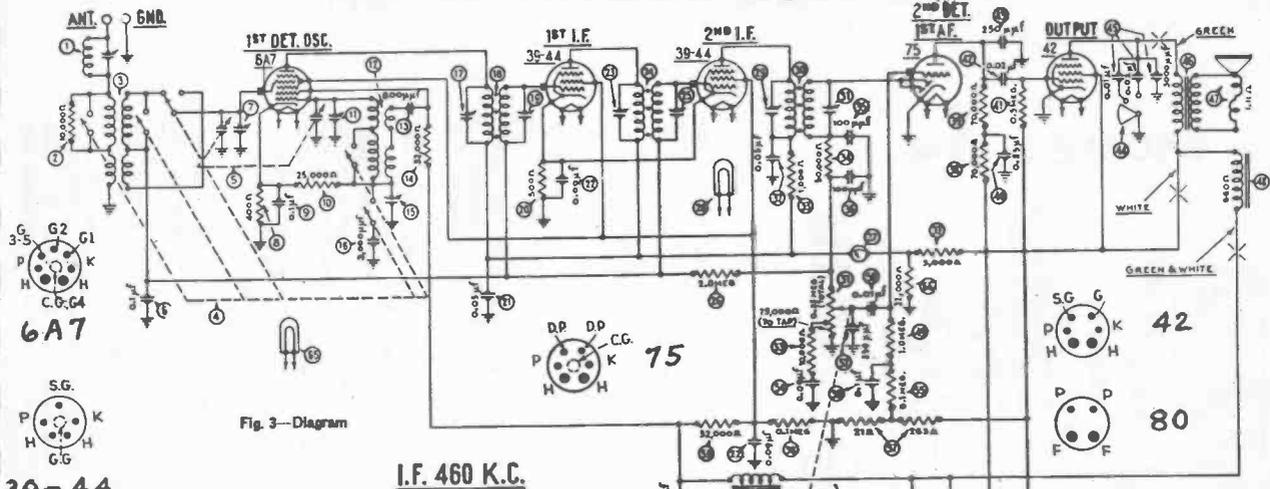

Fig. 3—Diagram
Set the wave switch on the Signal Generator at 260 K. C., and the dial of the receiver at 550. Turn on the set (volume full on), and the Signal Generator. Now adjust the 1st I. F. Primary and Secondary condensers (Nos. ⑥ and ⑦ in Fig. 3) and the 2d I. F. primary and secondary condensers (⑧ and ⑨) to give maximum reading on the output meter. The I. F. primary condenser is adjusted by turning the screw on top of the I. F. transformer and the secondary is adjusted by turning the nut. The I. F. transformers are in the smaller metal "cans". The screw and nut are reached through the hole in top. If the needle on the output meter goes off the scale, turn down the "attenuator" on the Signal Generator until a lower reading is obtained.